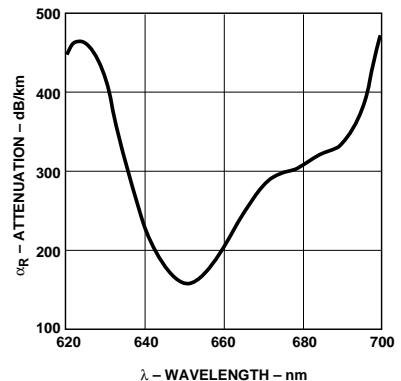

Figure 1. Typical POF Attenuation vs. Wavelength.
7. Note that α_R rises at the rate of about 0.0067 dB/°C, where the thermal rise refers to the LED temperature changes above 25°C . Please refer to Figure 1 which shows the typical plastic optical fiber attenuation versus wavelength at 25°C .